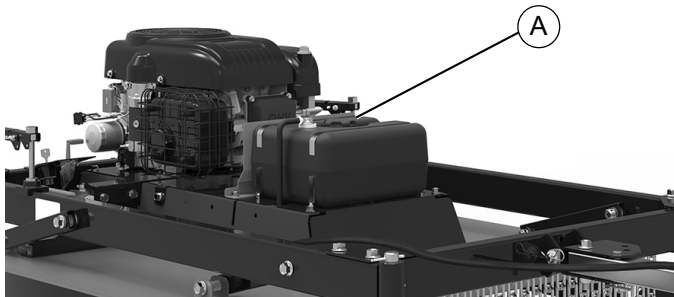

Figure 2-12. Fuel Cap
3. See Figure 2-12. Remove the gas fill cap (A).